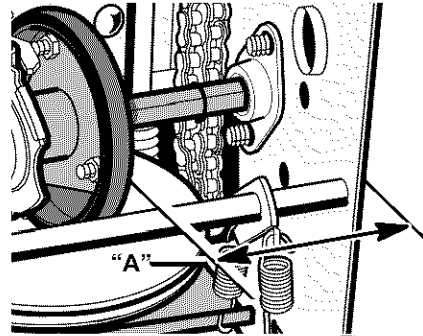

Figure 49
6. Note the position of the **friction wheel** (see Figure 49). The correct distance "A" from the right side of the **friction wheel** to the outside of the motorbox is as follows:
3. Move the **friction wheel** to the correct position (see Figure 49).